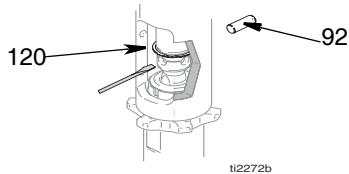

FIG. 8
- 4 (Fig. 8) Push retaining ring (120) up; push out pin (92).
- 2 (Fig. 11) Slowly pull engine starter rope until pump rod pin hole is aligned with hydraulic rod hole. Fig. 8. Push pin (92) into hole. Push retaining ring (120) into groove.